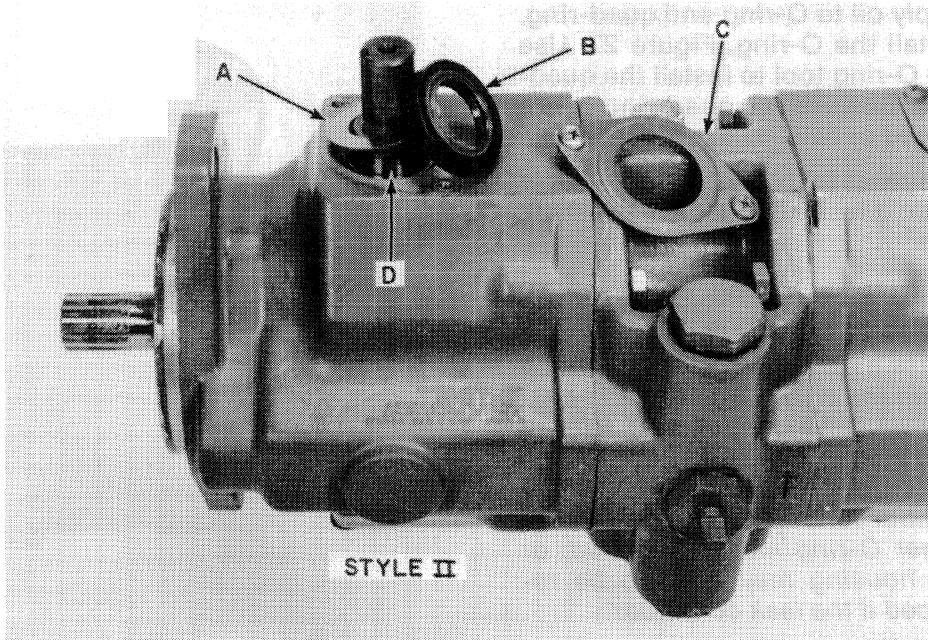

FIGURE 31
- (j) Coat the long pindle shaft with transmission fluid. Install flat washer, A, Figure 31. Install seal, B, and seal cover, C, Figure 31.